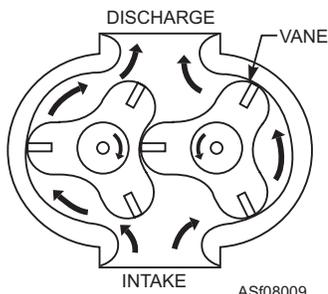

Figure 8-9.—Lobe pump.
**LOBE PUMPS.**—Another type of gear pump used in a variety of hydraulic systems is called a *lobe pump* (fig. 8-9). The principle of operation of this pump is exactly the same as the spur tooth pump. The lobes are constructed so there is a continuous seal (vane) at the point of juncture at the center of the pump and also on the housing.